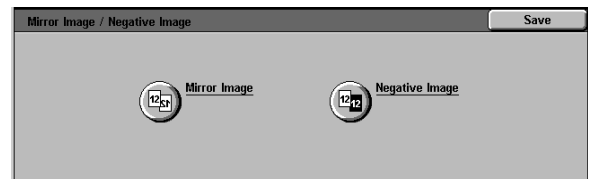

Figure 29: Invert Image screen
- 1 Touch the **Invert Image** icon on the Output Formats tab to display the Invert Image screen, as illustrated in Figure 29.